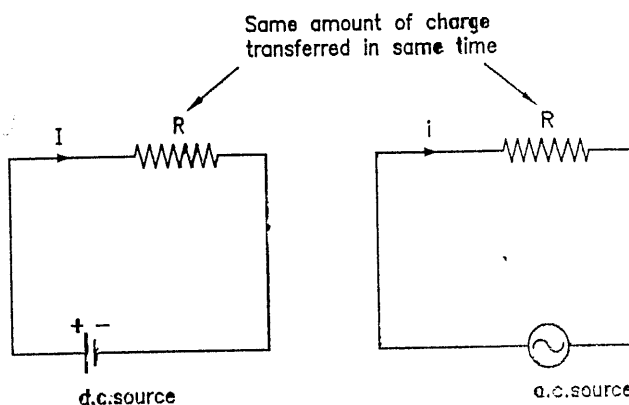

FIG. 2.13(a) : EXPLANATION OF AVERAGE VALUE
- Fig. 2.13(a) gives the explanation of average or mean values.